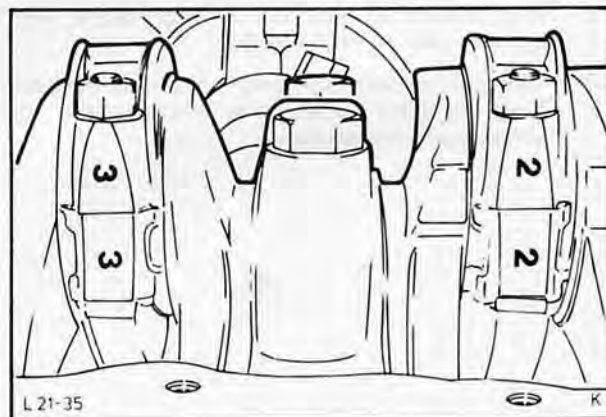

Fig. 86. Markings of big end and main bearing caps
24. Check markings on big end bearing caps and main bearing caps for subsequent reassembly, Fig. 86.